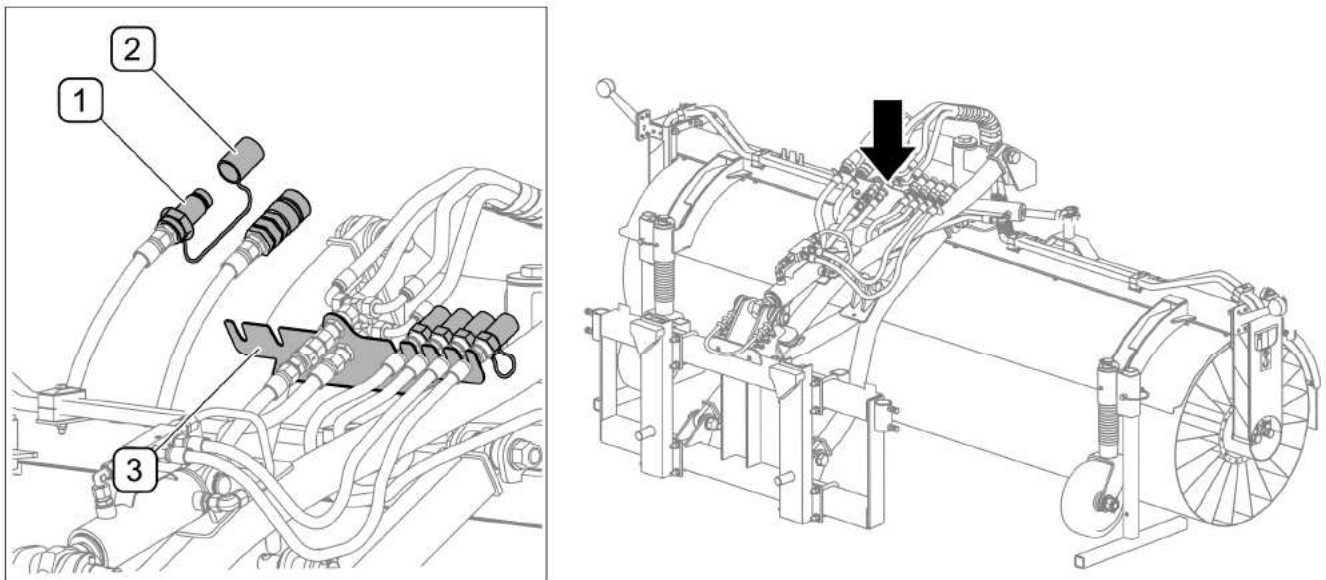

FIG. 4.20 **Protecting hydraulic conduit connectors (ZM-S25U)**
- 5) Disconnect hydraulic conduit plugs and electric lead from the carrying vehicle. Secure hydraulic conduit plugs (1) with stoppers (2) and place them in bracket (3) on the machine frame (FIG. 4.20). Drive the carrying vehicle away from the sweeper.